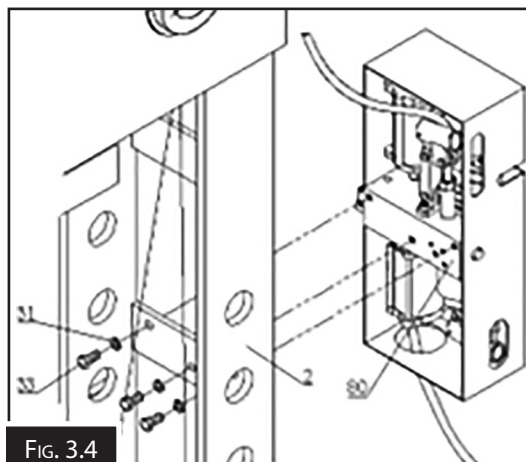

FIG. 3.4
1. Attach the pump assembly to the frame by using the bolts (M12X25), nuts and washers and tighten. (Fig. 3.4)